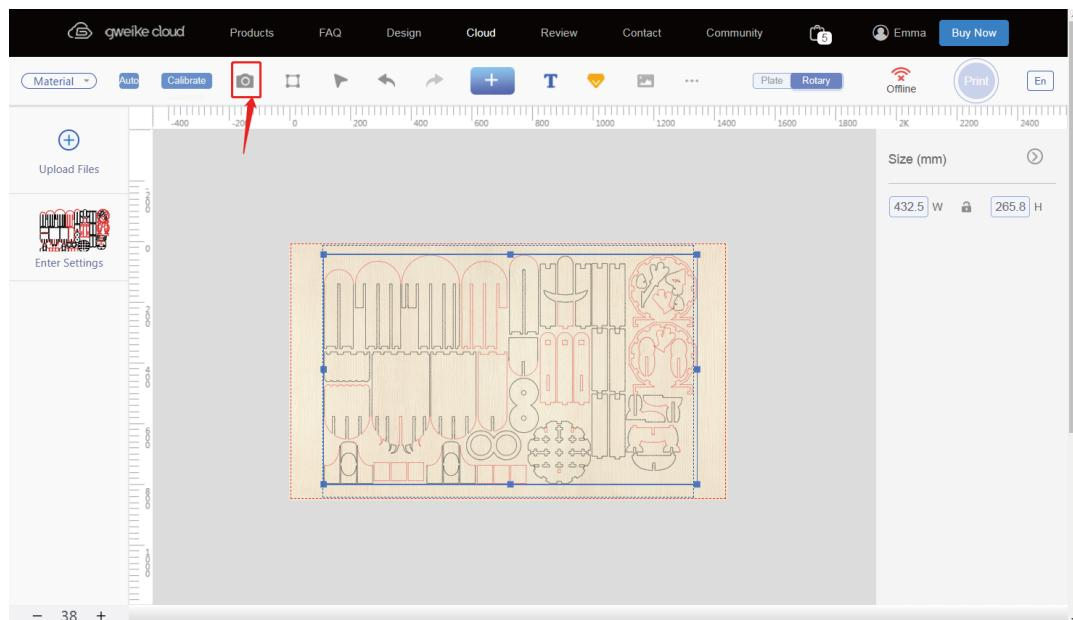

Figure 22
- ①The network environment is abnormal when sending photos, it is recommended to change the network environment
- ②The network fluctuates, click the photo button (preview) on the page to get the photo again (Figure 22)